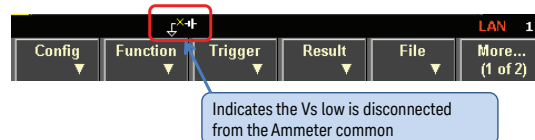

Figure 10. Procedure to set Vs low to a floating state
Step 6. The Output Connection input panel is shown. (Refer to Figure 10 for steps 6 to 8.)